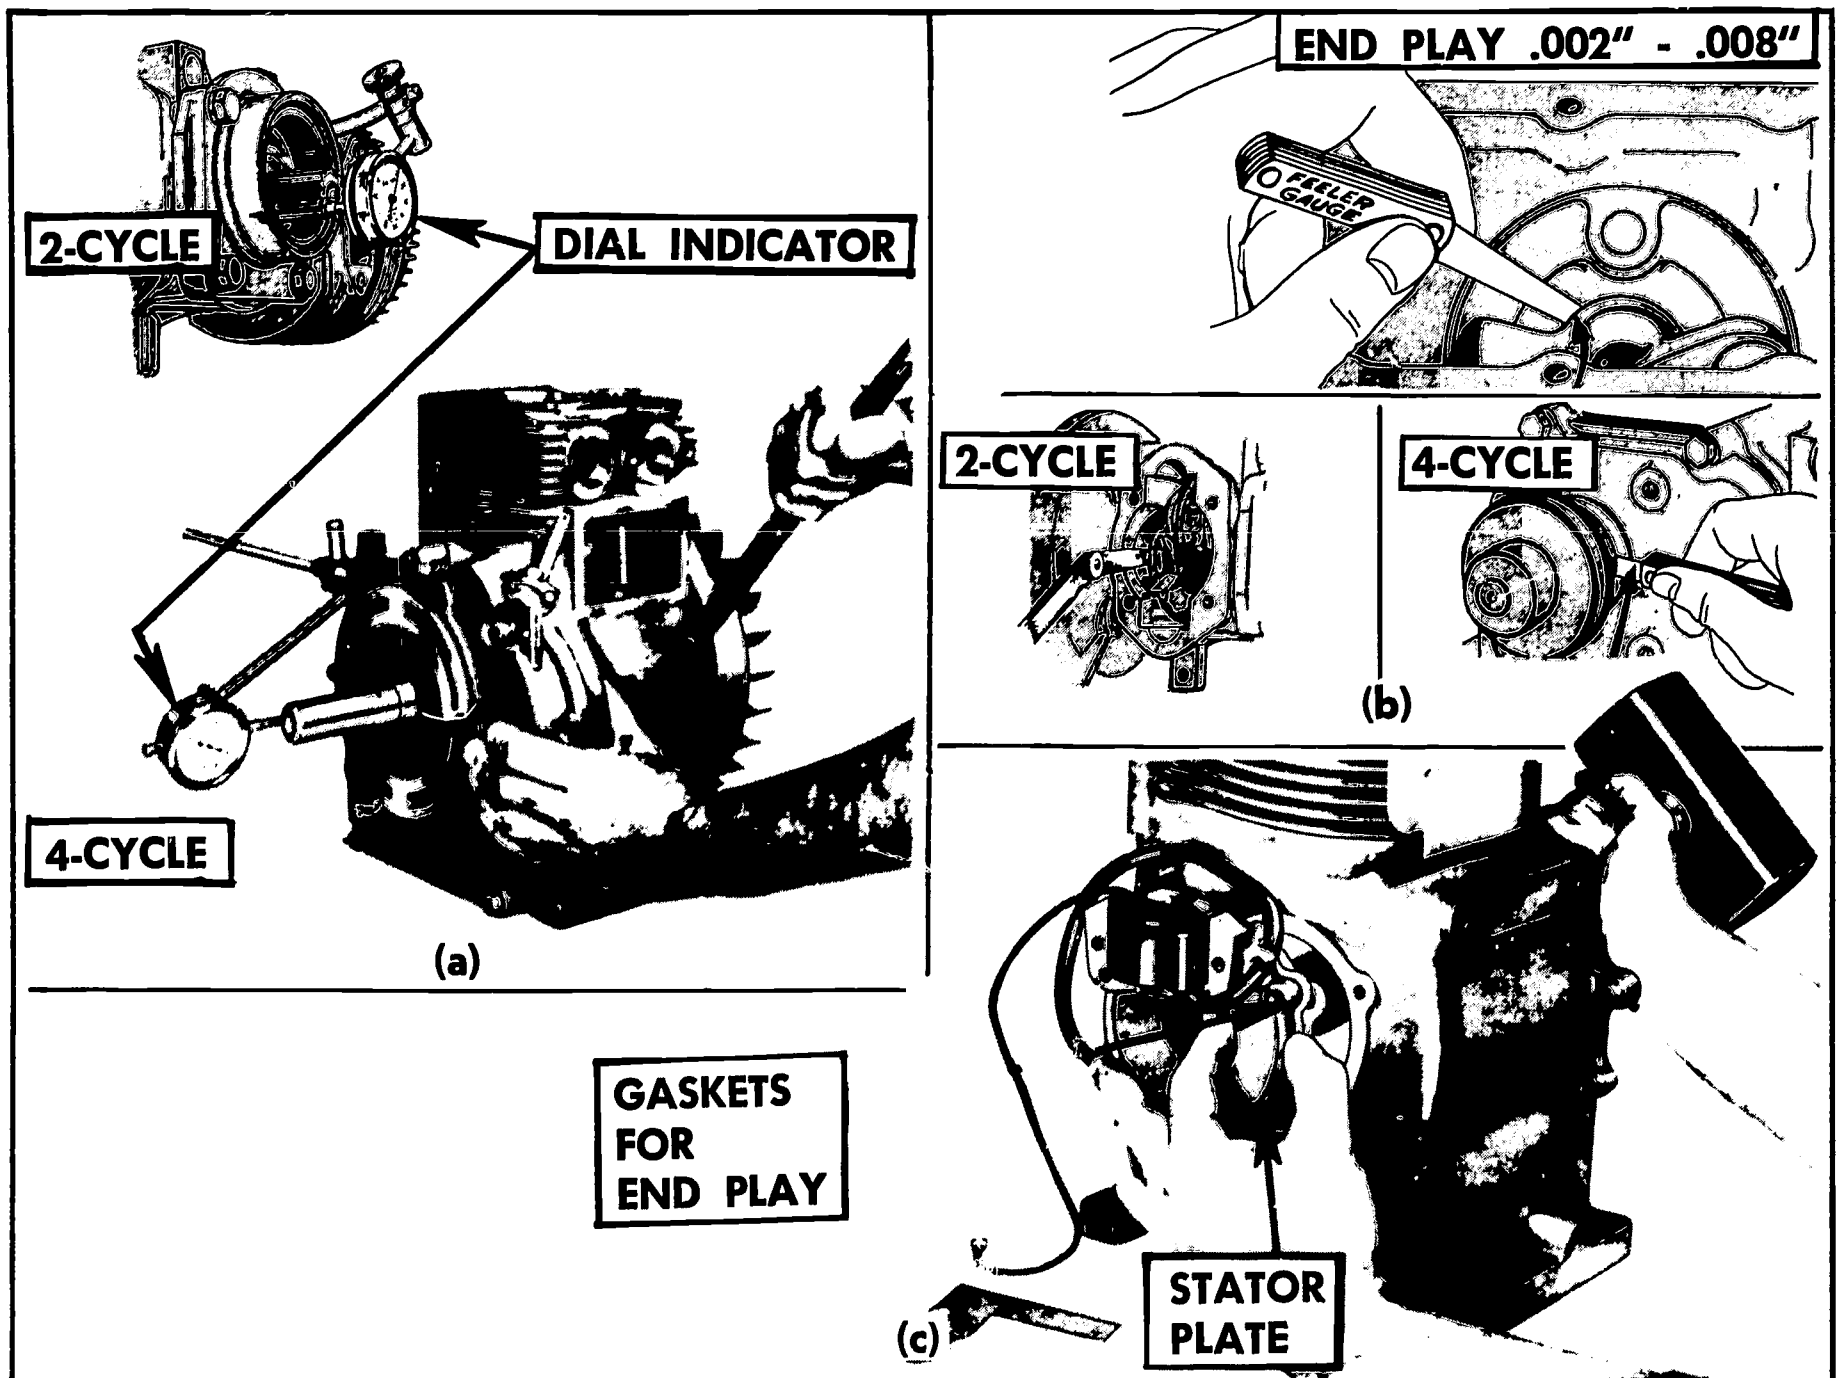

FIGURE 297. Checking and correcting crankshaft endplay.
5. *Check the crankshaft endplay (Figure 297).*